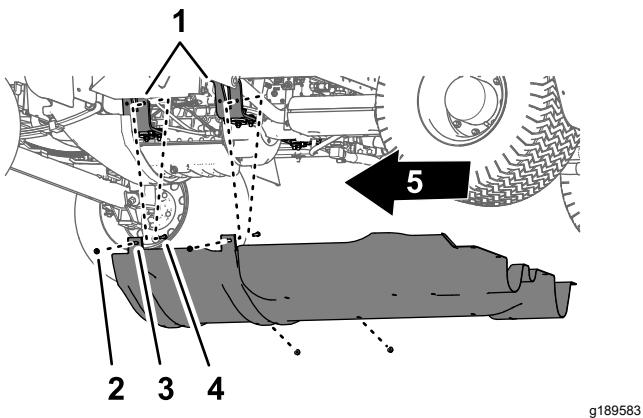

Figure 63
2. Remove the 4 flange locknuts (5/16 inch) from the bolts and carriage bolt that secure the mounting tabs of the undercarriage shroud to the engine-mount brackets of the machine (Figure 63).
4. Remove the undercarriage shroud from the machine (Figure 62 and Figure 63).
1. Align the undercarriage shroud to the bottom chassis of the machine; refer to Figure 63 in Removing the Undercarriage Shroud \(page 51\).
2. Move the mounting tabs of the undercarriage shroud over the bolts and carriage bolt at the engine-mount brackets of the machine; refer to Figure 63 in Removing the Undercarriage Shroud \(page 51\).
3. Assemble the undercarriage shroud to the engine-mount brackets and bolts (Figure 63) with the 4 flange locknuts (5/16 inch) that you removed in step 2 of Removing the Undercarriage Shroud \(page 51\).